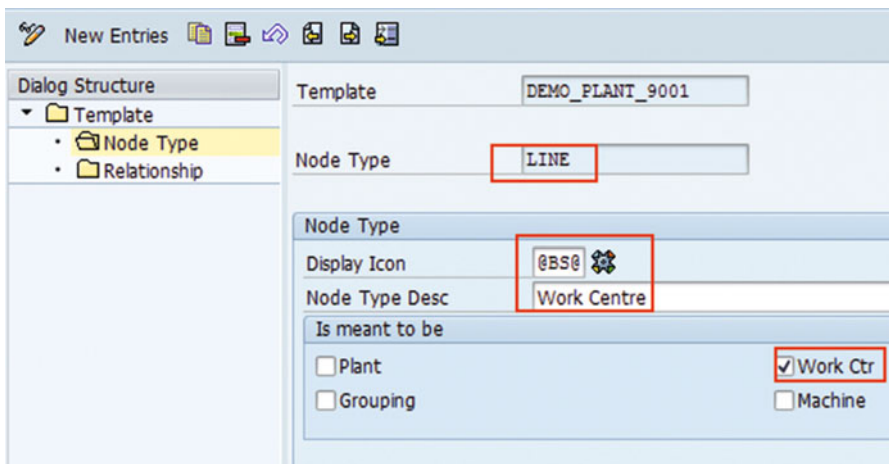

Figure 3-38. Configure plant hierarchy template: line (Level 3)
- a. Node Type: LINE (refer to Figure 3-38)